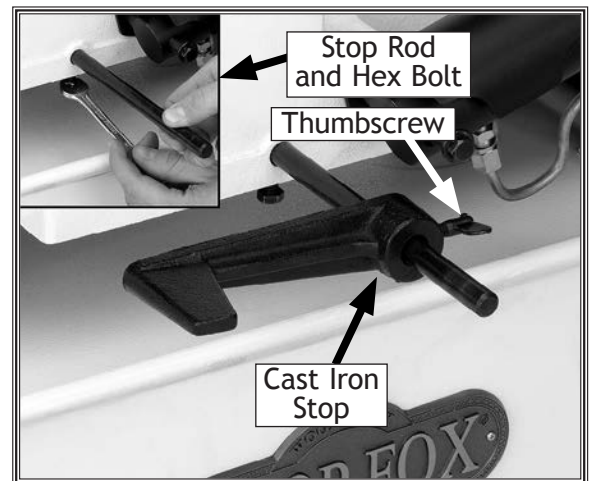

Figure 18. Installing the cast iron stop.
1. Insert the stop rod approximately 3/4" into the saw until the end of the rod is just flush with the inside casting surface (see **Figure 18**).
2. Use a 12mm wrench, and tighten the hex bolt (see **Figure 18**).